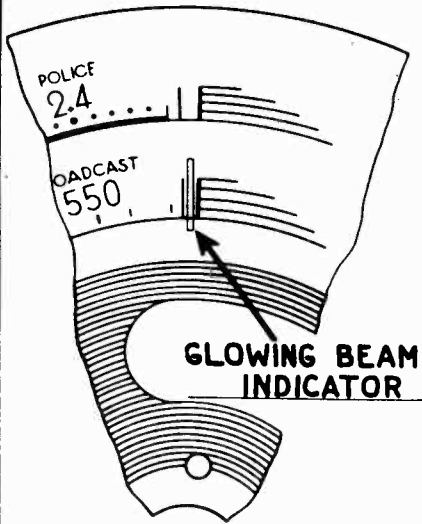

Fig. 2—Dial Calibration
**DIAL ADJUSTMENT**—The Tuning condenser is set at the maximum capacity position, by turning the tuning knob counter-clockwise. Loosen the set screw of dial hub and set dial, (see Fig. 2) with Glowing Indicator centered between the index lines at the low frequency end of scale.